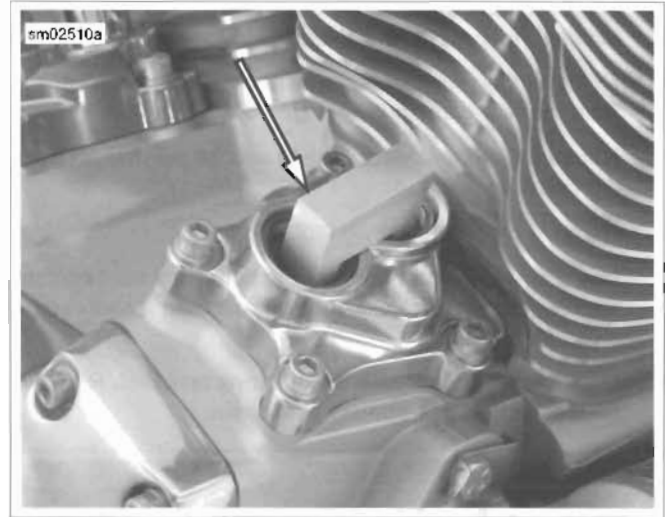

Figure 3-89. SCREAMIN' EAGLE Magnetic Lifter Holder
2. See Figure 3-89. Support lifters using SCREAMIN' EAGLE MAGNETIC LIFTER HOLDERS (Part No. 93979-10).